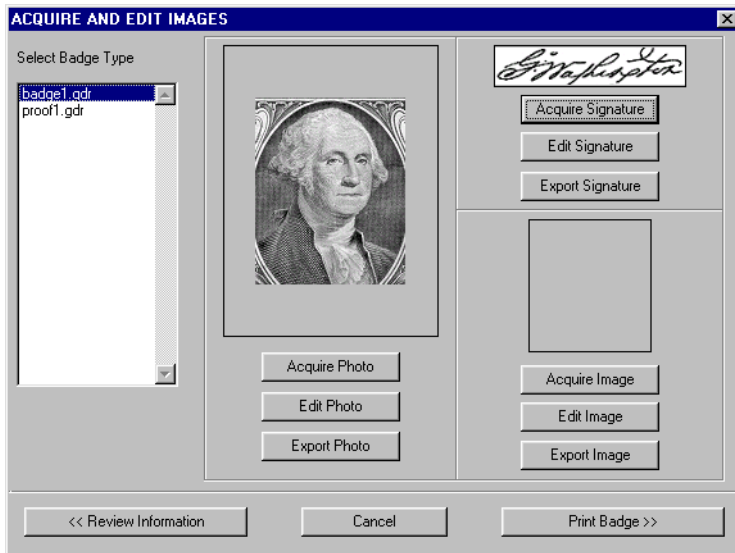

Figure 33: Acquire and Edit Images
13. If you are satisfied with your adjustments, click the button. The Acquire and Edit Images window appears with the cardholder photo displayed (see Figure 33).
18. By default, the exported cardholder signature file is saved in the same folder with the original cardholder photo. If the signature file should be saved in a different folder, click the  at the right side of the “Save in” field. Navigate through the folders in the host computer’s hard disk drive until you locate the desired folder. Click the  button. The cardholder signature file is exported and the Acquire and Edit Images window reappears (see Figure 33 on page 25).